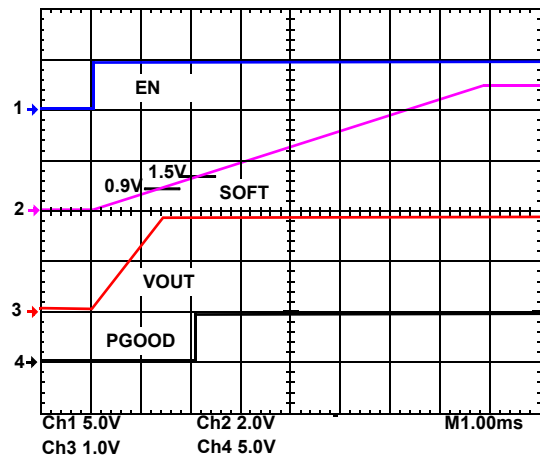

FIGURE 3. START UP
1.5V, the power good (PGOOD), the mode control, and the fault functions are enabled, as depicted in Figure 3.